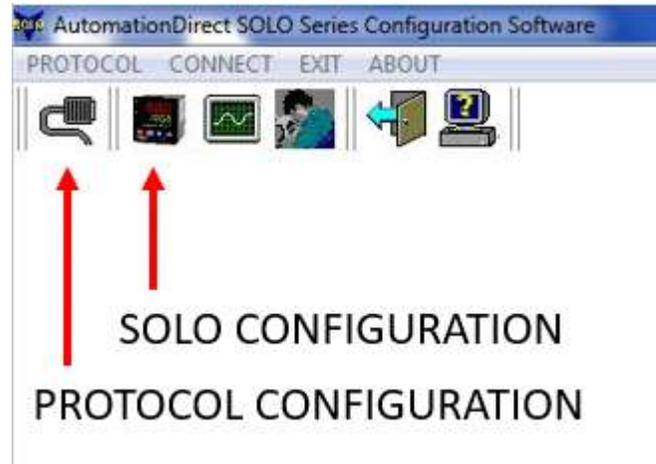
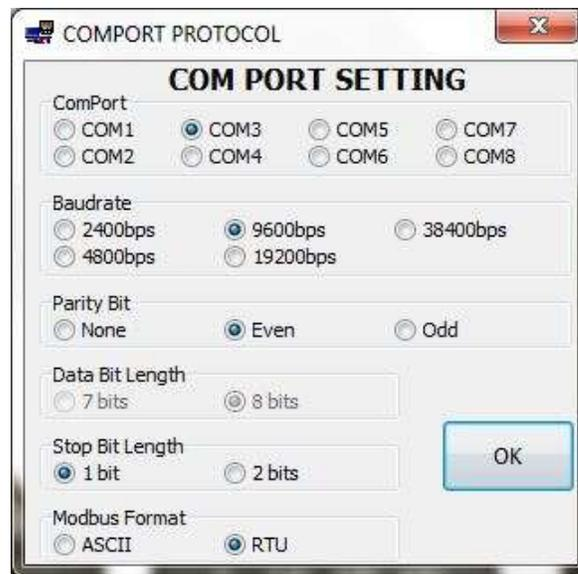

Figure 4. SOLO main screen.
Figure 5. COM port configuration
- c. (Optional) Click Windows Start button -> type 'Device Manager' then enter -> click on 'Ports (COM & LPT)' -> note the port number on USB Serial Port (COM X) -> Open 'SOLO Connect' -> click on 'PROTOCOL' (Figure 4) -> check to make sure the correct COM port is selected. -> check the rest of the settings: Baud rate – 9600, Parity Bit – Even, Data Bit Length – 8 bit, Stop Bit Length – 1 bit, Modbus Format – RTU. (Figure 5)
- d. Click on 'SOLO CONFIGURATION' (Figure 4).